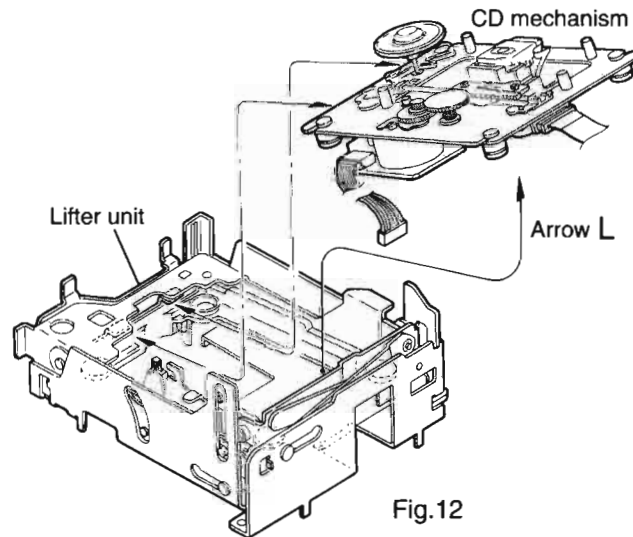

Fig.12
2. By raising the CD mechanism assembly in the arrow direction "L", remove the assembly from the lifter unit (See Fig.12).